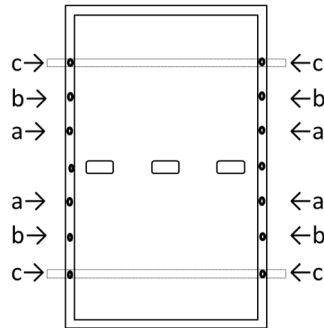

Fig. A3: The location of Bolt Holes
**Table.A3-1 Test load using Bolt Holes (see Fig. A3)**
**Table.A3 Design load using Bolt Holes (see Fig. A3)**